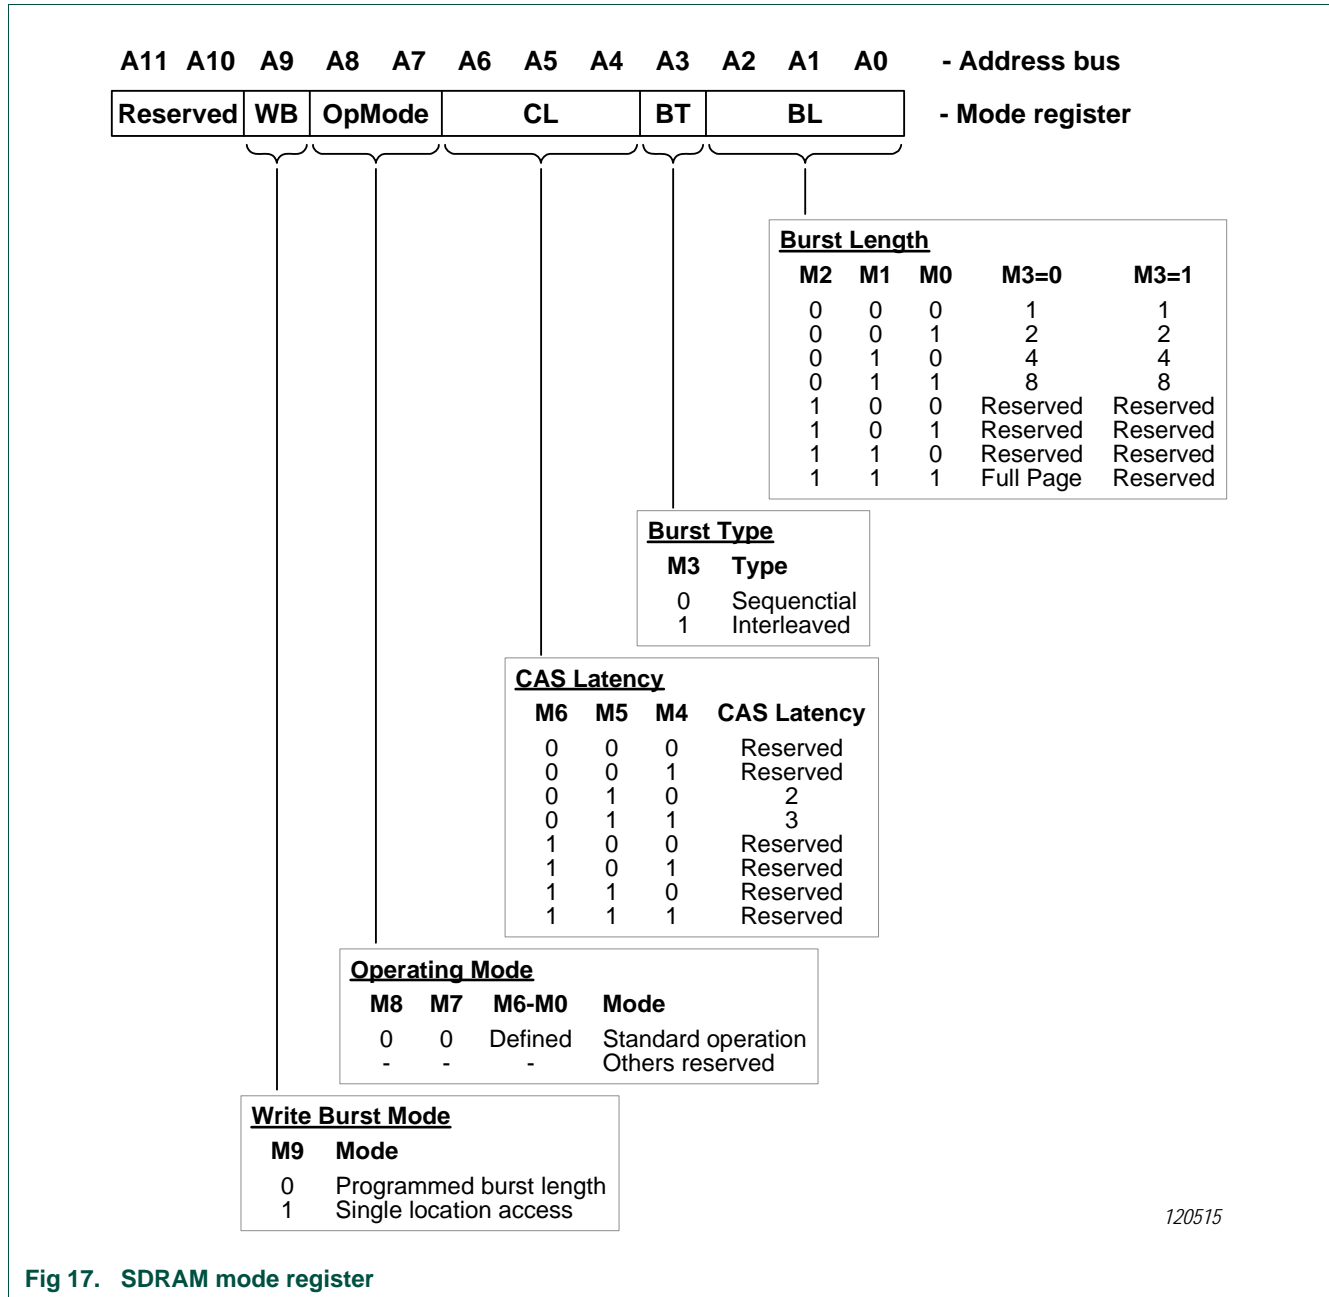

Fig 17. SDRAM mode register
When using the EMC with SDRAM, the SDRAM devices must be configured appropriately for the EMC. This includes setting up the SDRAMs for a 128-bit sequential burst. The burst configuration is done through a mode register in the SDRAM memory. Figure 17 shows the layout for a JEDEC standard SDRAM mode register.
- Mode register value, based on information from both the SDRAM data sheet, as in Figure 17, and the EMC. In this example, the value will be 0x23. This represents a programmed burst length, CAS latency of 2, sequential burst type, and a burst length of 8, as described in Section 9.5.